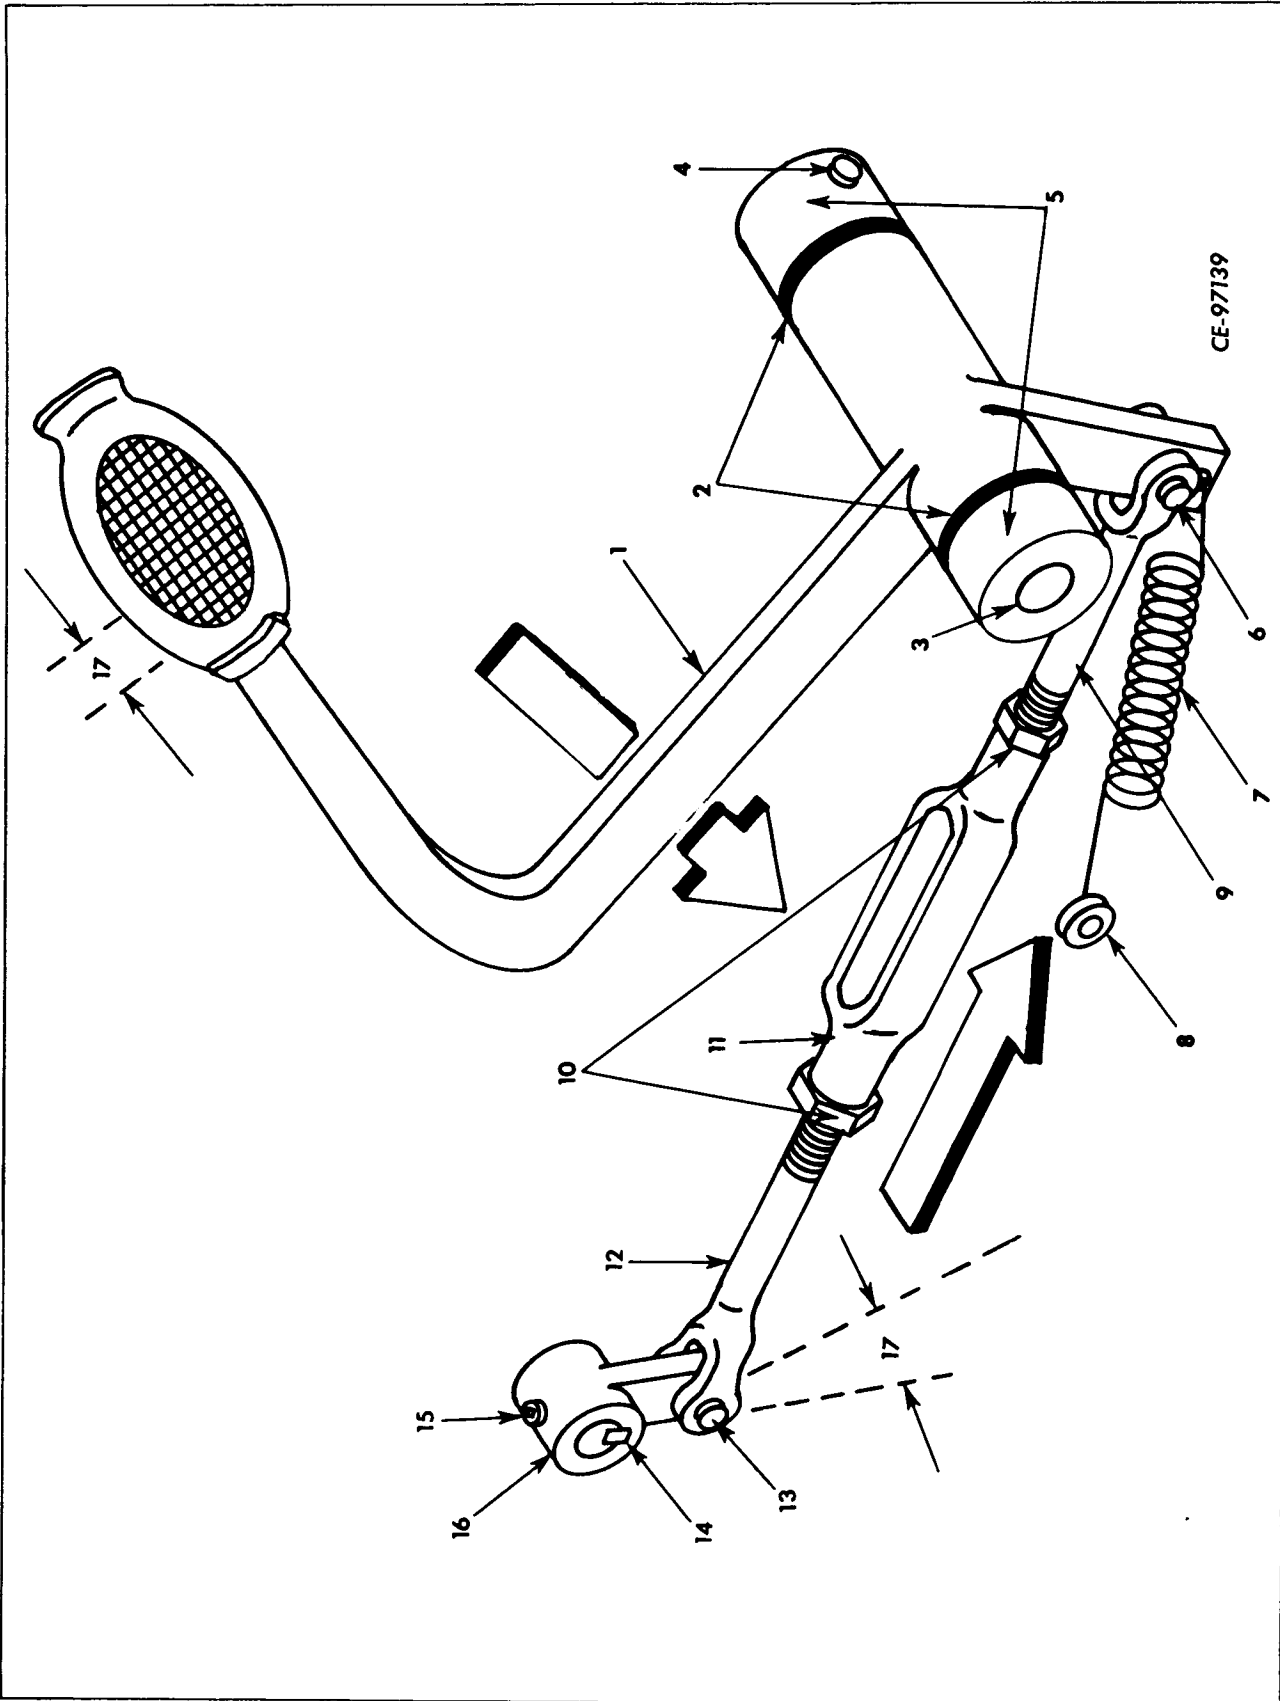

Figure 9-2
Legend for Figure 9-2
Disconnect pedal return spring (7, Fig. 9-2). Remove clevis pins and cotter pins (6, 13) disconnecting pedal (1) and clutch arm (16).